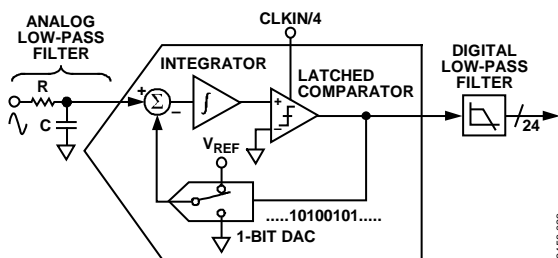
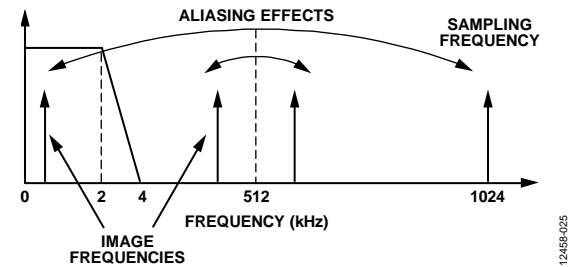

Figure 23. First-Order Σ - Δ ADC
Figure 25. Aliasing Effects
The ADE7903 has three second-order Σ - Δ ADCs. For simplicity, the block diagram in Figure 23 shows a first-order Σ - Δ ADC. The converter is composed of the Σ - Δ modulator and the digital low-pass filter (LPF).
Figure 23 also shows an analog low-pass filter (RC) on the input to the ADC. This filter is placed outside the ADE7903, and its role is to prevent aliasing. Aliasing is an artifact of all sampled systems, as shown in Figure 25. Aliasing refers to the frequency components in the input signal to the ADC that are higher than half the sampling rate of the ADC and appear in the sampled signal at a frequency below half the sampling rate. Frequency components above half the sampling frequency (also known as the Nyquist frequency, that is, 512 kHz) are imaged or folded back down below 512 kHz. This folding happens with all ADCs, regardless of the architecture. In Figure 25, only frequencies near the sampling frequency of 1.024 MHz move into the bandwidth of interest for metering, that is, 40 Hz to 3.3 kHz or 40 Hz to 2 kHz. To attenuate the high frequency noise (near 1.024 MHz) and prevent the distortion of the bandwidth of interest, a low-pass filter must be introduced. It is recommended that one RC filter with a corner frequency of 5 kHz be used for the attenuation to be sufficiently high at the sampling frequency of 1.024 MHz. The 20 dB per